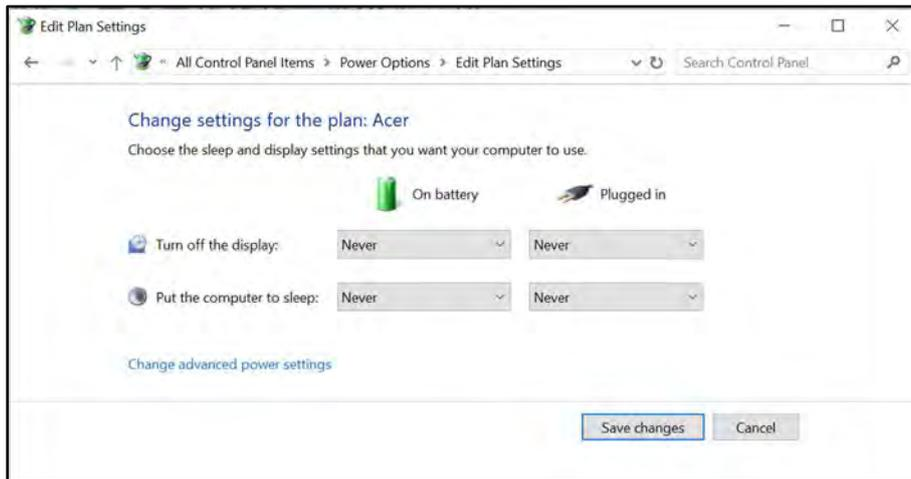

Figure 4: Power Options set to 'Never' (example from Windows 10 laptop)
10. To ensure continuous communication between the computer and attached instruments, be sure to set all computer power saving settings to 'Never' (See example in Figure 4).